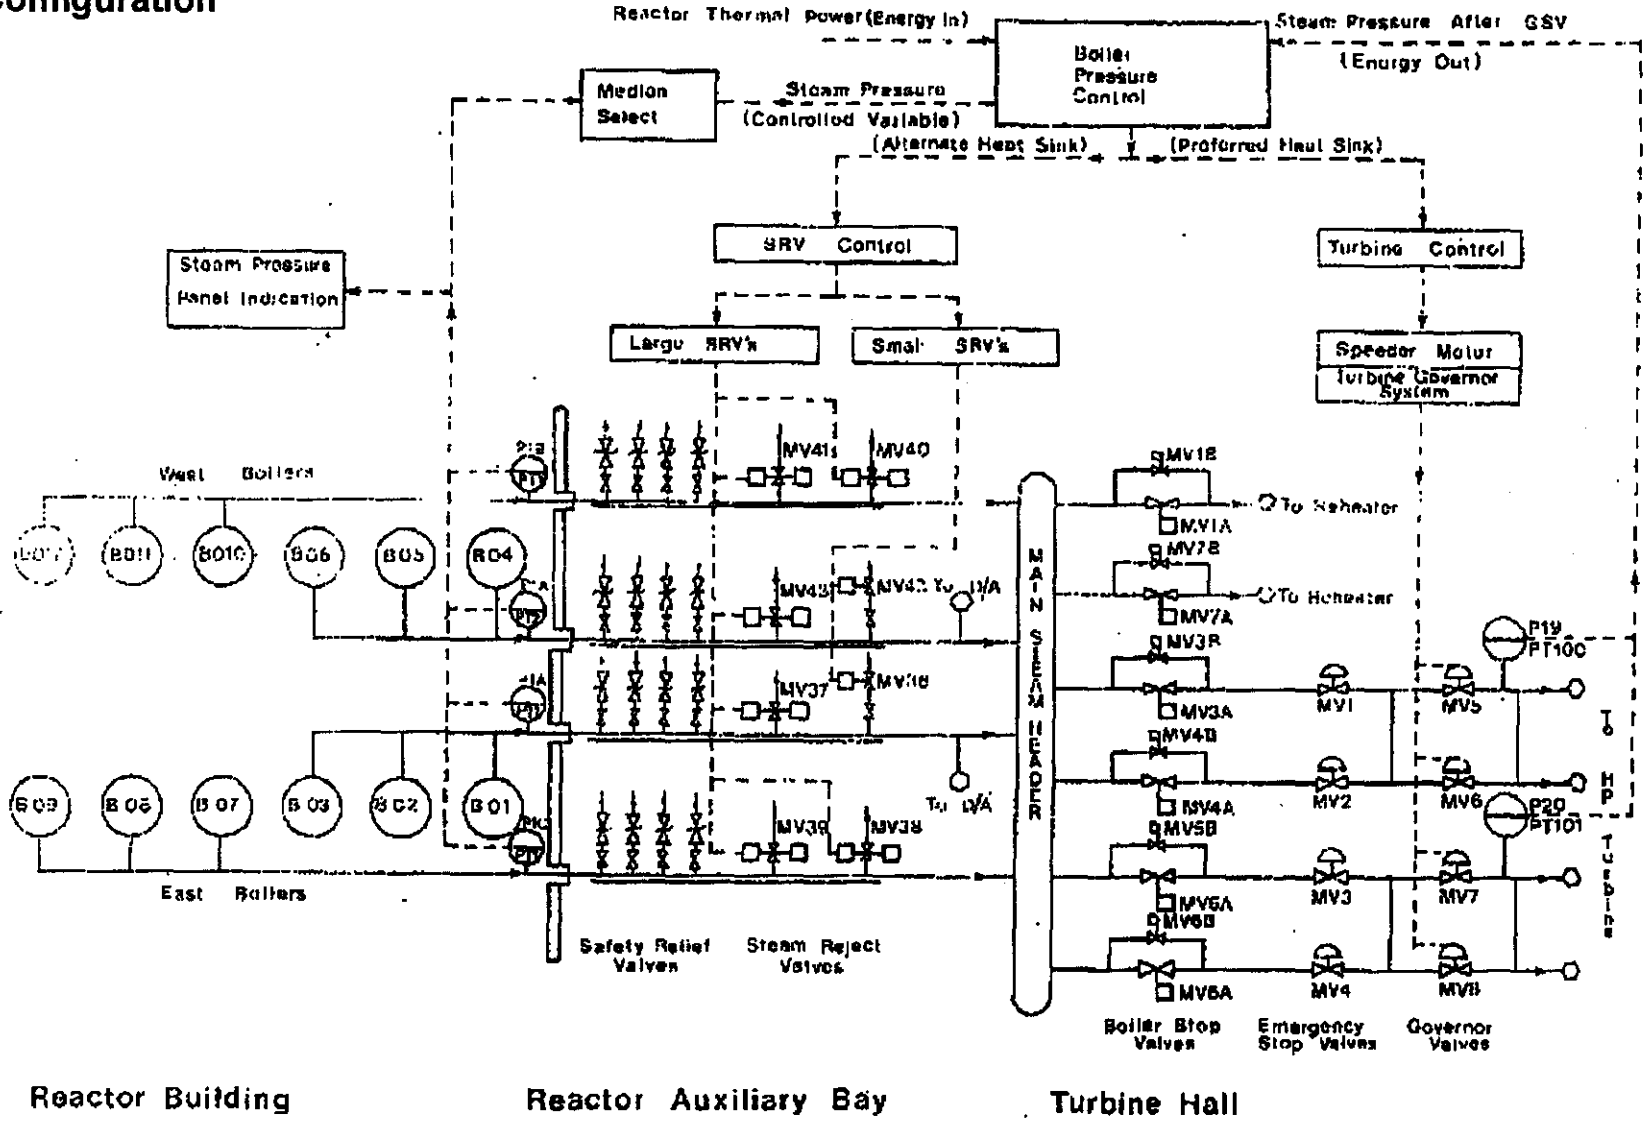
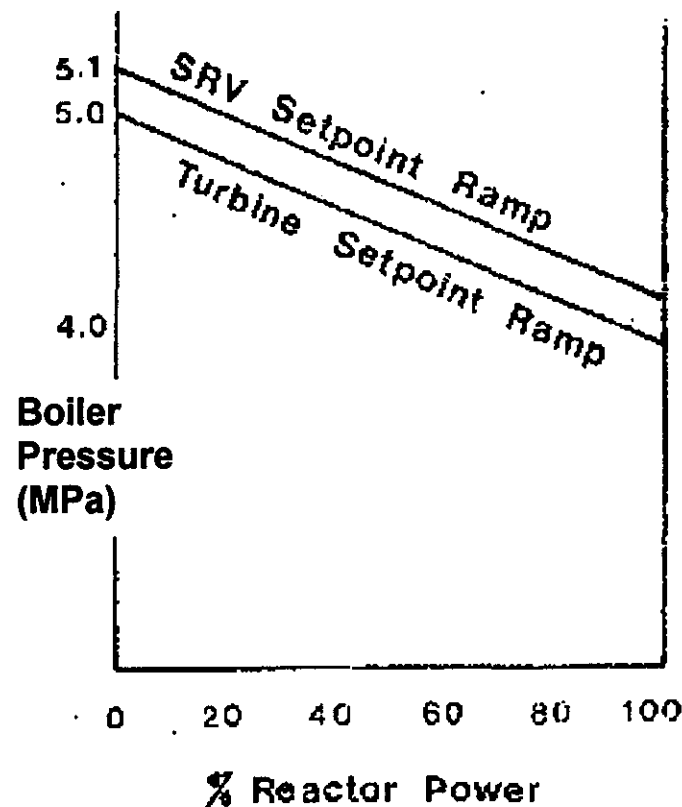

Figure 3: Boiler Pressure Control System.
Figure 4: Turbine and SRV Setpoint Ramps
The main components of the boiler pressure control system are outlined in Figure 3. The steam pressure is sensed by electronic transmitters which develop the measurement signal for the boiler pressure control routine. The setpoint is computed as a function of the reactor power.
Should the steam pressure rise more than approximately 100 kPa above the steam pressure setpoint, the reject valves (Figure 3) will begin to stroke open to supplement the heat sink provided by the turbine. The steam reject valve control setpoint is offset from that of the speeder gear by 100 kPa as shown in Figure 4.
- The SRVs act as a back up to the turbine to maintain a sufficient heat sink for the boilers. The reject valve (Figure 3) control scheme will throttle the SRVs proportional to the boiler pressure error.
- The average steam pressure after the governor valves (Figure 3 - PT100, PT101) is used to compute the reactor power as a function of the steam pressure.
Steam system overpressure protection is provided by the sixteen safety valves (Figure 3). These valves are set to relieve at pressures ranging from 5.38 to 5.54 MPa(g) and can each release approximately 6% of the full power steam flow.